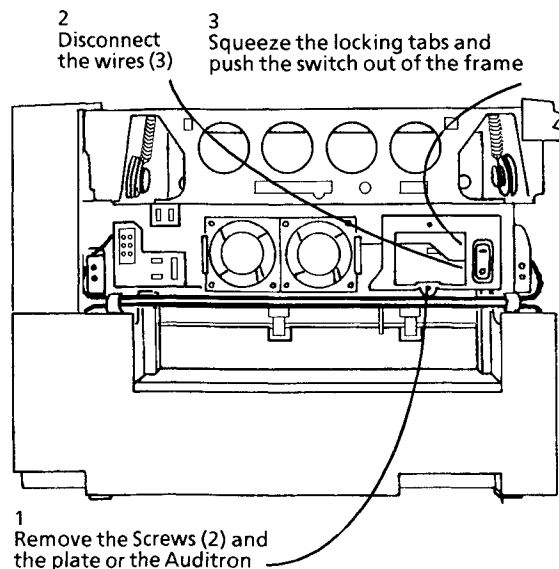

Figure 1. Removing the Main Power Switch
3. Remove the Main Power Switch (Figure 1).